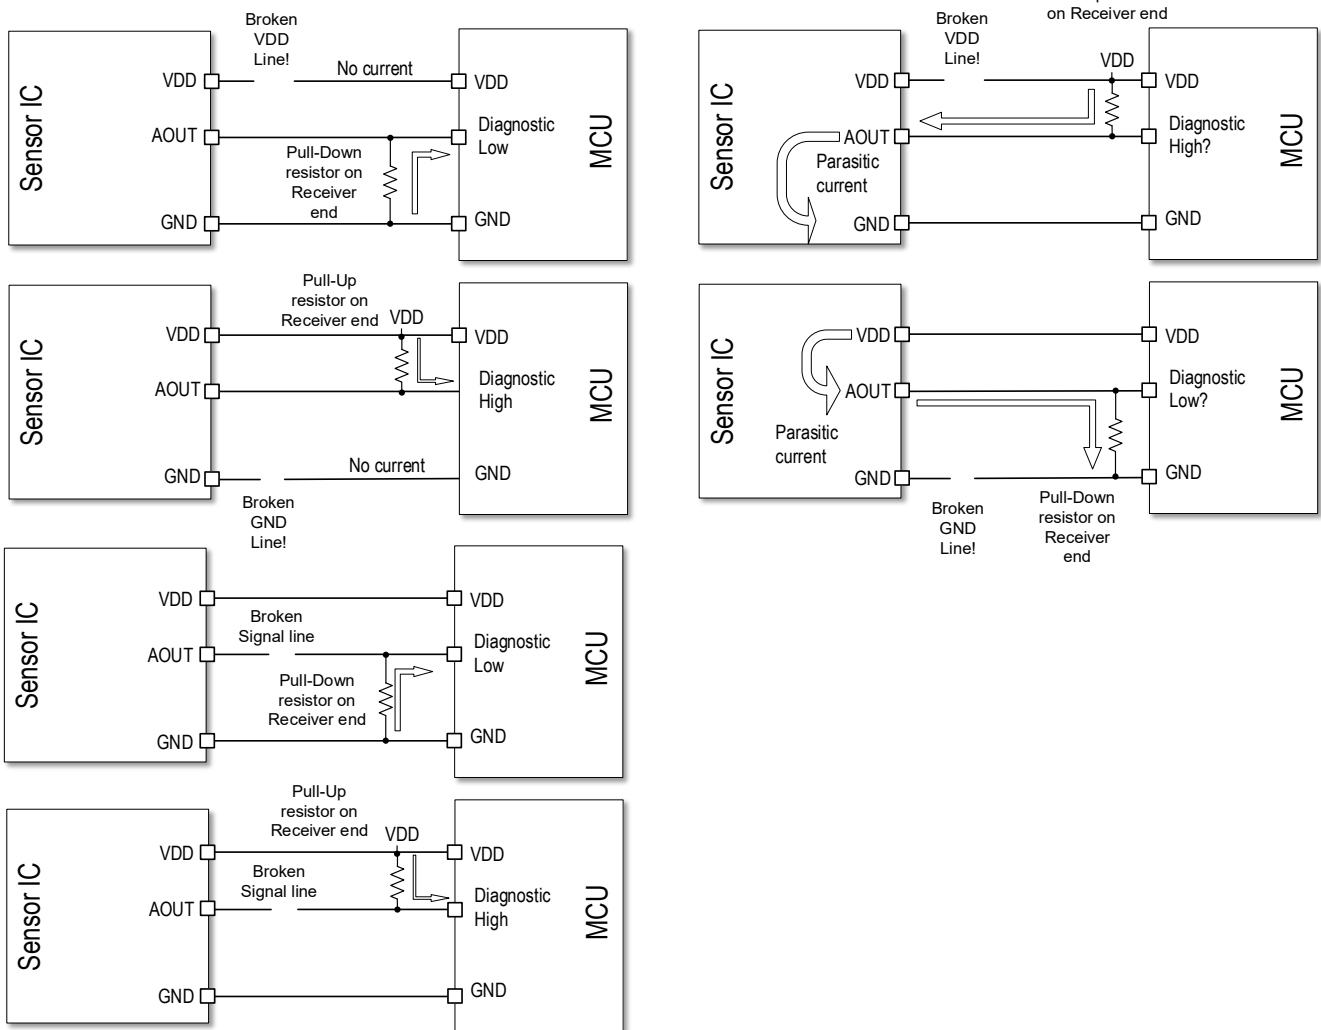

Figure 35. Parasitic currents on analog outputs with broken VDD or broken GND lines
Most broken supply, broken GND, or analog output signal connection errors can be detected by monitoring the DC voltage levels at the analog output pin AOUT, see the uncritical error cases on Figure 35. If a diagnostic error or broken signal wire occurs, the DC voltage level at the affected pin is pulled into the diagnostic range (diagnostic high:  $V_{OUT} > 95\% V_{DD}$  or diagnostic low:  $V_{OUT} < 5\% V_{DD}$ ) through the external pull-up/pull-down resistors.
- a broken VDD supply wire with external pull-up resistors at the receiving end, see Figure 35.
- a broken GND wire with external pull-down resistors at the receiving end, see Figure 35.